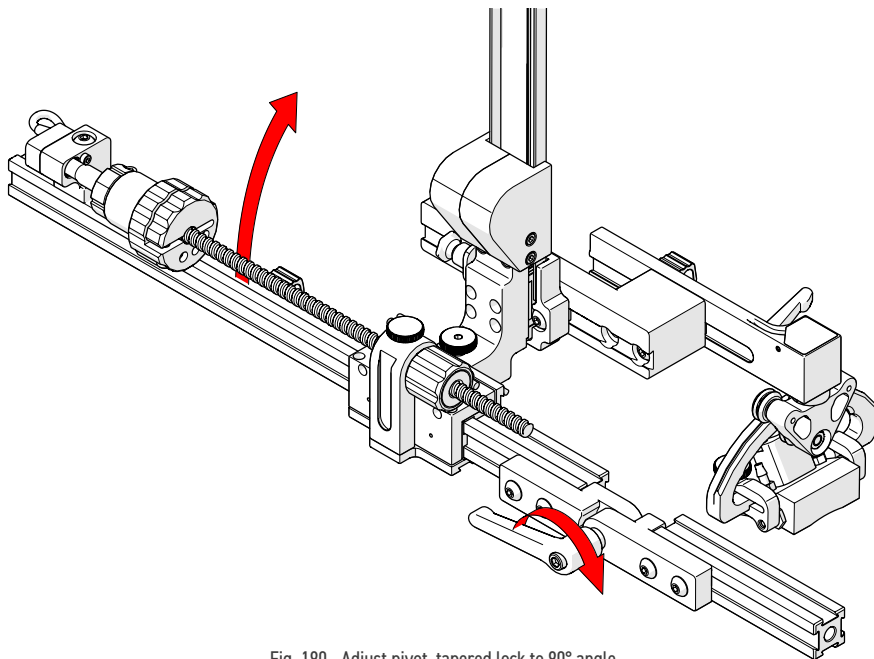

Fig. 190 - Adjust pivot, tapered lock to 90° angle
6. Release the pivot, tapered lock and position the 3-axis nozzle frame 90° (Fig. 190). Tighten the pivot tapered lock.